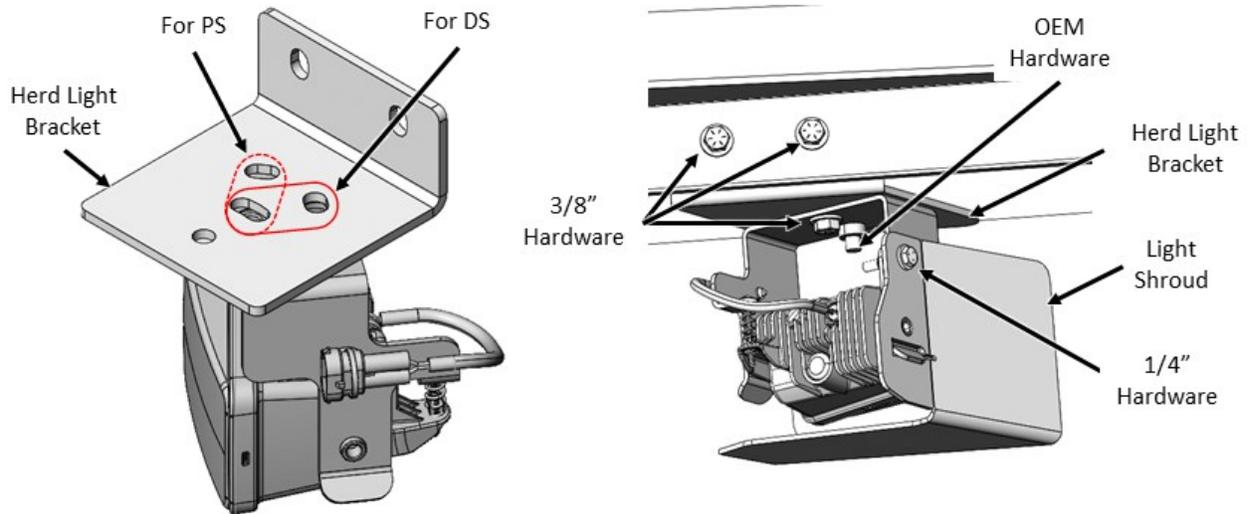

Figure 3b:
2. For a Set Back Axle (SBA) Truck if equipped with OEM Fog Lights, use the OEM Lights hardware, provided HERD Light Bracket, Light Shroud, 3/8" and 1/4" Hardware to install the OEM lights to the Herd Truck Guard. Use the HERD Light Bracket's rear set of mounting holes; see Figure 3b. Fully tighten the 1/4" Hardware and **Torque the 3/8" Hardware to 39 ft-lb.**